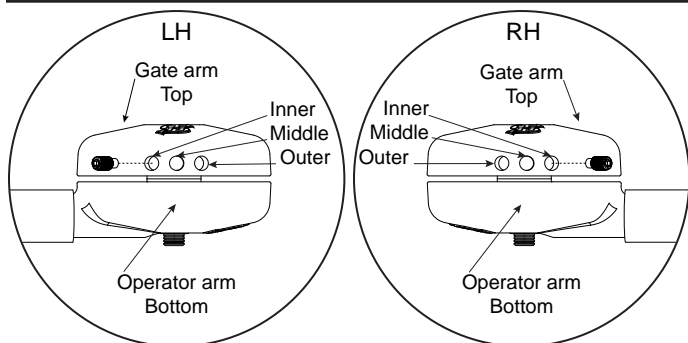

Figure 15. Set Screw Positions
13. For a bent arm in the closed position, install the set screw in the middle or inner position from the gate. A bent arm in the closed position allows the taper clamp to slip and reduces the risk of damage to the operator in the event of a gate strike (Figure 15 and Figure 16C).
14. For a straight (locked) arm in the closed position, install the set screw in the outer position from the gate. A straight arm in the closed position increases security, but increases the risk of damage to the operator in the event of a gate strike (Figure 15 and Figure 16D).